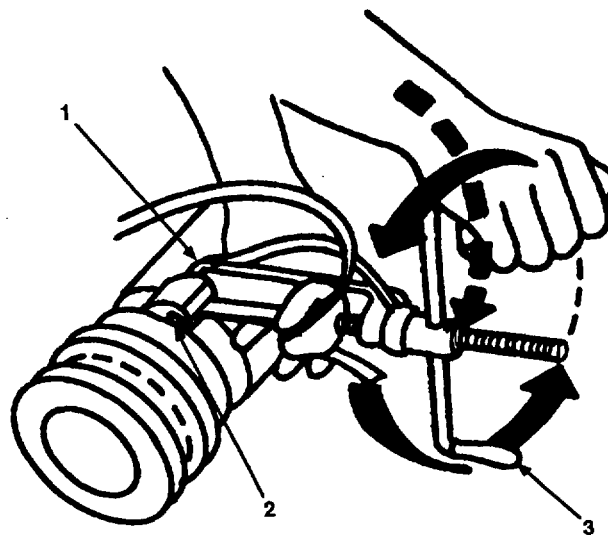

Figure 3-7. Rolling of Banding Tool.
- s. Roll banding tool (Figure 3-7, 1) over buckle (2), releasing tension by turning banding tool handle (3) clockwise throughout entire course of roll.